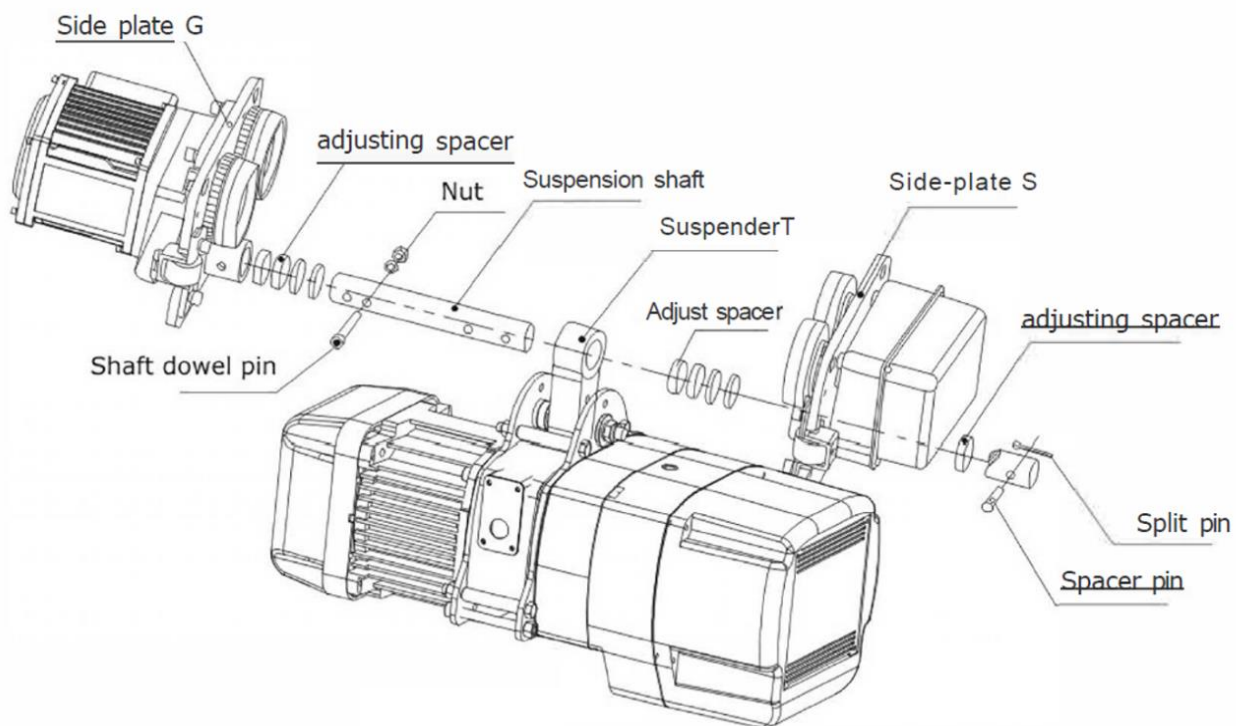
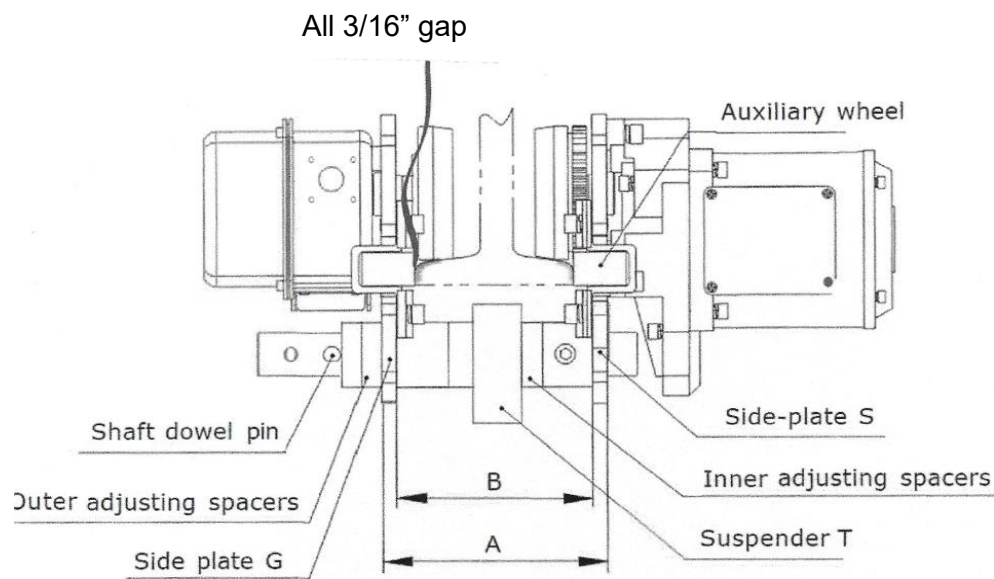

Fig 4.6
Fig 4.7
4.3 Follow (Fig 4.6) step by step installing the suspension lug into the **hoist** body first then install the trolley suspension shaft, with adjusting spacers, into the trolley Side Plate S.
4.4 Install more adjusting spacers to take up slack on the suspension shaft outside Side Plate S, then install Spacer Pin and Split Pin in hole A, (Fig 4.6)
5.1 Using Fig 4.7, allow 3/16" gap (as instructed below in Fig 4.7) between auxiliary side guide wheels and the beam flange so that trolley can roll freely on the beam but not be too tight or too loose.
5.2 To set the spacing between the trolley auxiliary side guide wheels 3/16" larger than the beam flange width, begin by installing some of the inner adjusting spacers, Fig 4.7, on the suspension shaft. (Paying attention to orientation of holes A & B as shown in Fig 4.8). Next, install the hoist lug centering the lug between the side plates G & S, Fig 4.6, as closely as possible to centerline of I-beam. Add additional inner spacers to make the 3/16" gap. (Beam flange width + 3/16" = distance between side guide wheels. Adjust with spacers accordingly and install as many of the outer spacers on the suspension shaft as possible and put the spacer pin in hole A, Fig 4.8).